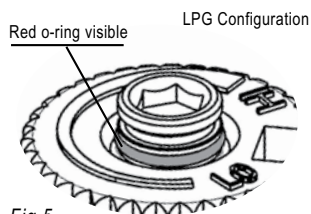

Fig.5
17) Verify that if the conversion is from NG to LPG, the screw must be re-assembled with the red o-ring visible (Fig. 5).